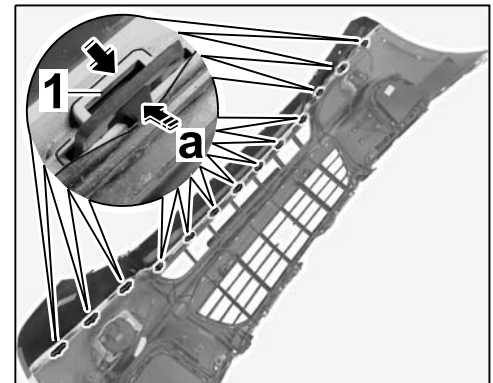

Figure 5
1.3.3 Press down locking lugs (⇒ Figure 5 -arrow a-) and guide front spoiler out of the front apron (⇒ Figure 5).